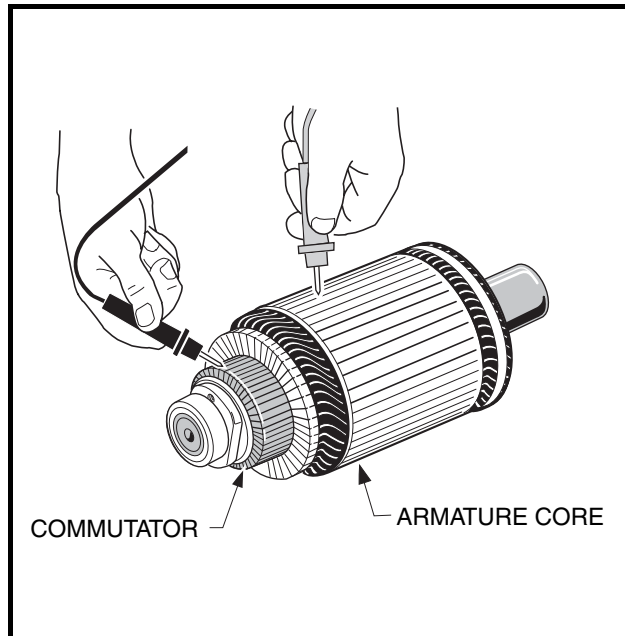

Figure 16-6 Armature Test
1. With a multimeter set to 200 ohms, place one probe on the commutator and the other on the armature core. The multimeter should indicate no continuity (**Figure 16-6, Page 16-6**). If the reading is incorrect, replace the armature.